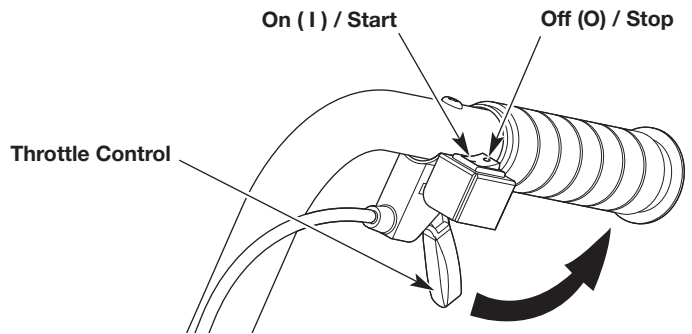
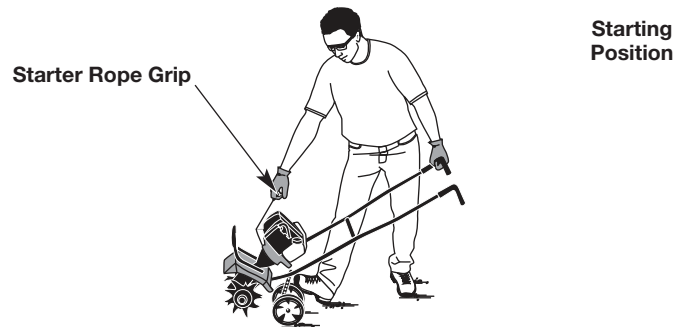

Fig. 7
Fig. 9
WARNING: Avoid accidentally starting the unit. To avoid serious injury, the operator and the unit must be in a stable position when pulling the starter rope (Fig. 9).
NOTE: There is no need to turn the unit on. The On/Off switch is in the ON (I) position at all times (Fig. 7).
4. Stand in the starting position (Fig. 9). Hold the handlebar with one hand. Hold the starter rope with the other hand. Use one foot to hold the wheels in place.
NOTE: Always tilt the unit back slightly to bring the tines off the ground when starting the unit (Fig. 9).
5. **DO NOT** squeeze the throttle control (Fig. 7). Pull the starter rope with a controlled and steady motion until the unit starts (Fig. 9).
7. Squeeze and hold the throttle control (Fig. 7). Continue warming the engine for an additional 30 to 60 seconds. The unit may be used during this time.
2. Press and hold the On/Off switch in the OFF (O) position until the engine comes to a complete stop (Fig. 7).